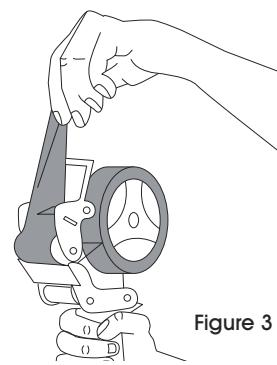

Figure 3
3. Pull tape over smoothing roller allowing tape to unroll freely off tape wheel. (See Figure 3) To unwind tension, see Figure 4.